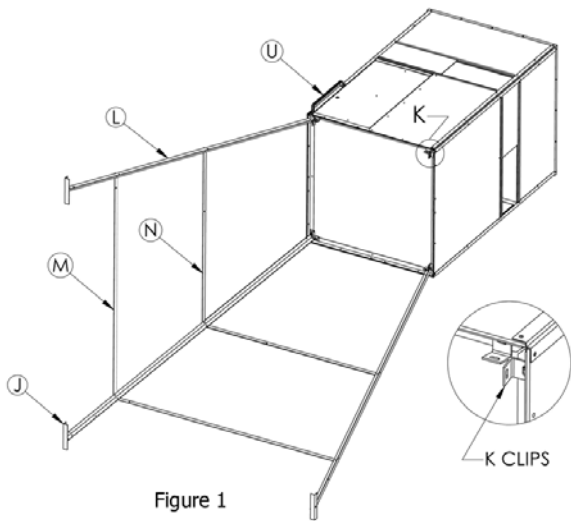

Figure 1
1. Remove the (K) clips from this package and assemble the blind, being sure to install these clips according to the blind instructions.
3. Attach the (U) handle to the (S) corner post nearest the door opening. Remove the first and second bolts from the bottom of the (S) corner post. Position the (U) handle and attach by reinstalling the bolts. (Fig. 1)
4. Attach the (L) Legs to (K) K-Clips using (M) & (N) Horizontal Bracing as necessary for support. (Fig. 1)